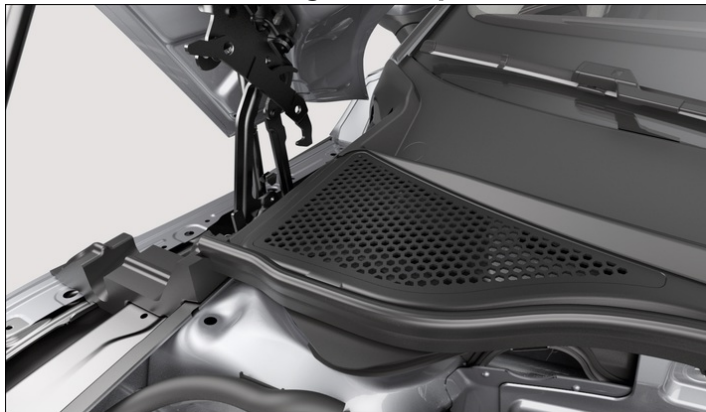

Fig. 1 Between the engine compartment and the windscreen: plenum chamber (illustration).
- Remove leaves and other loose objects with a vacuum cleaner or by hand → Fig. 1 , → ℹ.